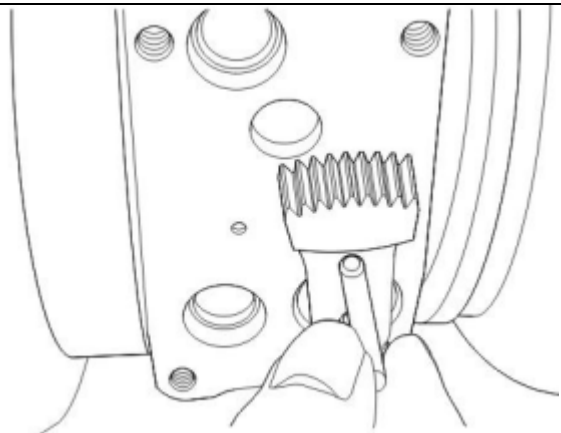

FIGURE 16
18. Remove the alignment pin without disturbing the position of the sector gear. The gear must not be moved from this position (FIGURE 16).